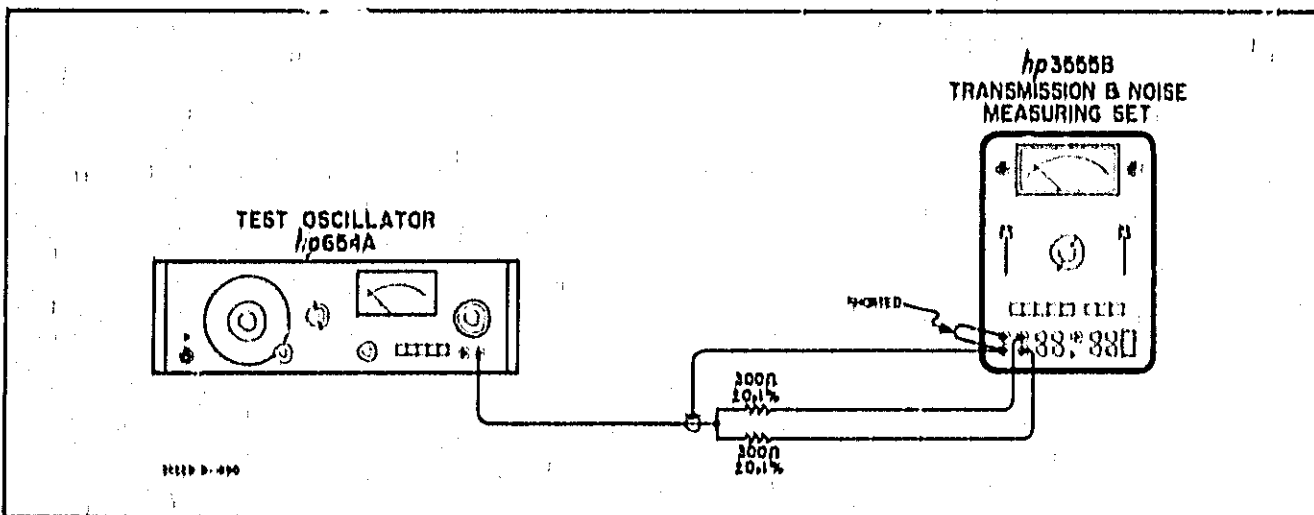

Figure 5-7. Input Balance Test Set-Up
c. Change the equipment setup to that shown in Figure 5-7.